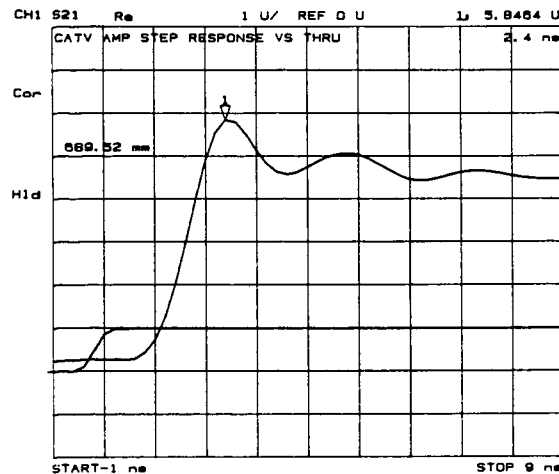

Figure 8-8. Time Domain Low Pass Measurement of an Amplifier Small Signal Transient Response
The step input shown in Figure 8-8 is actually the inverse Fourier transform of the frequency domain response of a thru measured at calibration. The step rise time is proportional to the highest frequency in the frequency domain sweep; the higher the frequency, the faster the rise time. The frequency sweep in Figure 8-8 is from 130 MHz to 1 GHz.
Figure 8-8 also illustrates the time domain low pass response of an amplifier under test. The average group delay over the measurement frequency range is the difference in time between the step and the amplifier response. This time domain response simulates an oscilloscope measurement of the amplifier's small signal transient response. Note the ringing in the amplifier response that indicates an underdamped design.
**Interpreting the Low Pass Step Transmission Response Vertical Axis.** In the real format, the vertical axis displays the transmission response in real units (e.g. volts). For the amplifier example in Figure 8-8, if the amplifier input is a step of 1 volt, the output, 2.4 nanoseconds after the step (indicated by marker 1), is 5.84 volts.